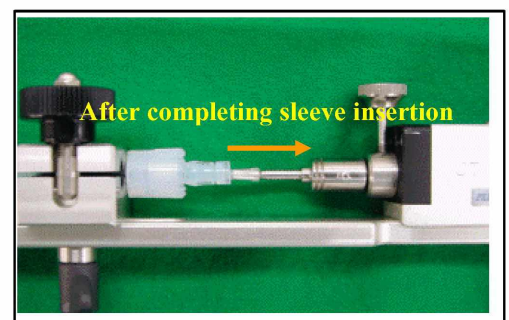

Fig. 26 - Completely inserted sleeve
- When the lever is released, the sleeve holder will move back and the diameter expansion ring will be unlocked. Now the inserted tube sleeve can be removed from the sleeve holder (see Fig.26).